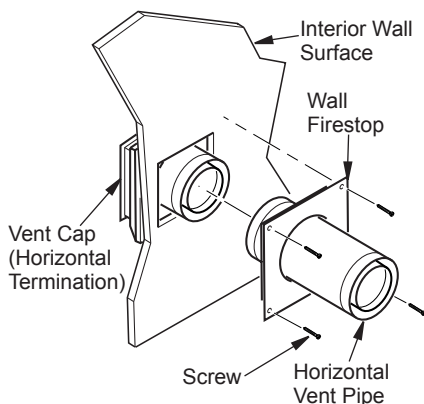

Figure 12 - Connecting Vent Cap with Horizontal Vent Pipe
7. **Connecting Vent Cap with Horizontal Vent Pipe:** Slide wall firestop over vent pipe before connecting horizontal run to vent cap (see Figure 12).